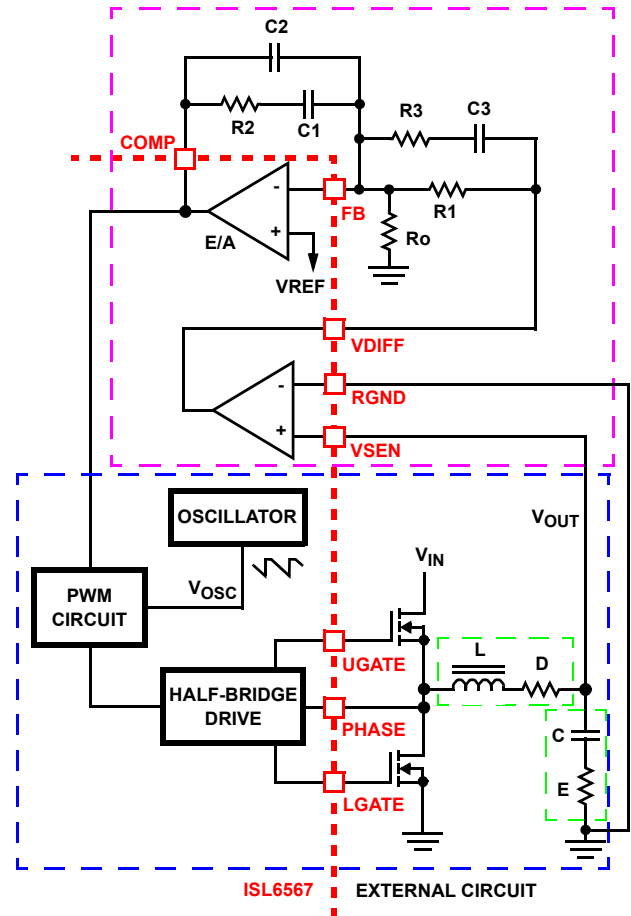

FIGURE 24. VOLTAGE-MODE BUCK CONVERTER COMPENSATION DESIGN
Figure 24 highlights the voltage-mode control loop for a synchronous-rectified buck converter, applicable, with a small number of adjustments, to the multi-phase ISL6567 circuit. The output voltage (V_{OUT}) is regulated to the reference voltage, V_{REF} , level. The error amplifier output (COMP pin voltage) is compared with the oscillator (OSC) modified saw-tooth wave to provide a pulse-width modulated wave with an amplitude of V_{IN} at the PHASE node. The PWM wave is smoothed by the output
1. Select a value for R1 (1kΩ to 5kΩ, typically). Calculate value for R2 for desired converter bandwidth (F₀). If setting the output voltage via an offset resistor connected to the FB pin, Ro in Figure 24, the design procedure can be followed as presented. However, when setting the output voltage via a resistor divider placed at the input of the differential amplifier, in order to compensate for the attenuation introduced by the resistor divider, the